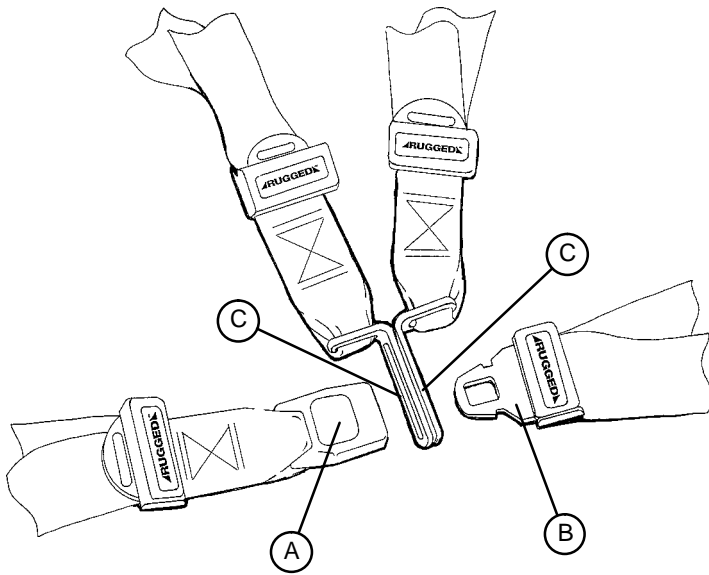

Figure 9 – Buckling the Safety Restraint
To open the restraint, press the red button (A) on the front of the buckle "receiver". This releases the buckle "tang" (B) which can then be pulled out of the receiver (Figure 9).
To close the restraint, push the tang into the receiver until a "click" is heard. When fastening the chest restraint be sure the tang passes through both links (C) on the shoulder strap (Figure 9).